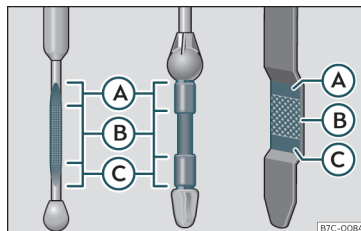

Fig. 248 Engine oil dipstick.
- Then pull it out once more and check the oil level >>> **Fig. 248**. Top up with engine oil if necessary.
If the oil level is above area >>> **Fig. 248 A**, do not start the engine. This could result in damage to the engine and catalytic converter. Contact a specialised workshop.
The oil level must never be above zone >>> **Fig. 248 A**. Otherwise oil can be drawn in through the crankcase breather and leak into the atmosphere via the exhaust system.